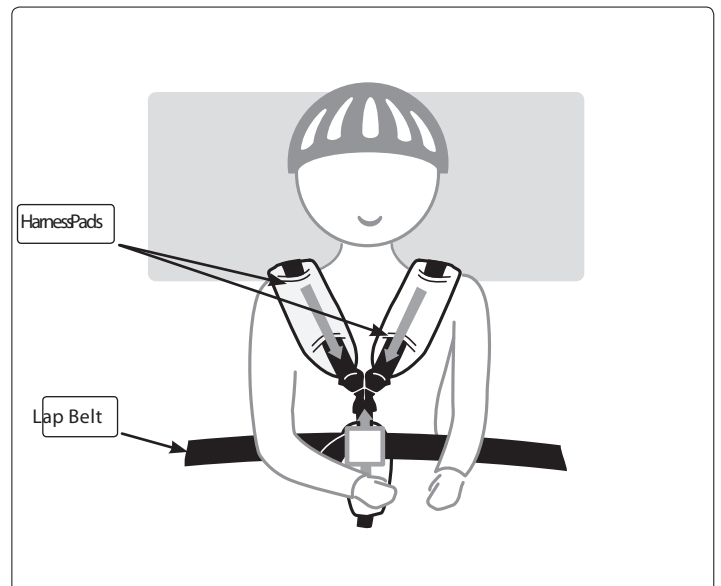

FIGURE 4
3. Fasten and adjust lap belt snugly. FIGURE 4